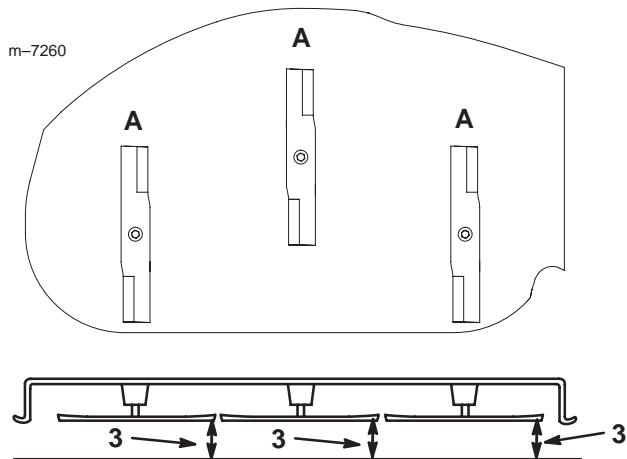

Figure 27
1. Rotate the blades until the ends face forward and backward (Fig. 27). Measure from a level surface to the cutting edge, position **A**, of the blades (Fig. 27). Note this dimension.